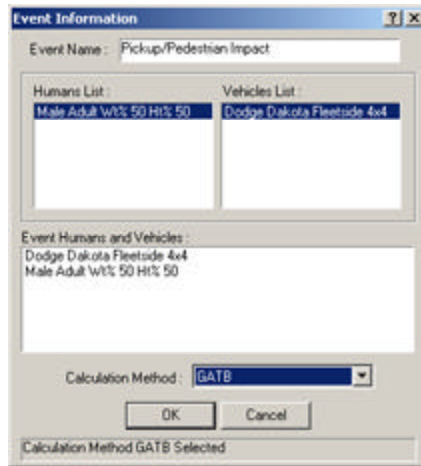

Figure 5-32: Creating the Pedestrian impact event in the HVE Event Editor
- Click the (+) sign on the tool bar to add an event. The Information Dialog is displayed in Figure 5-32.